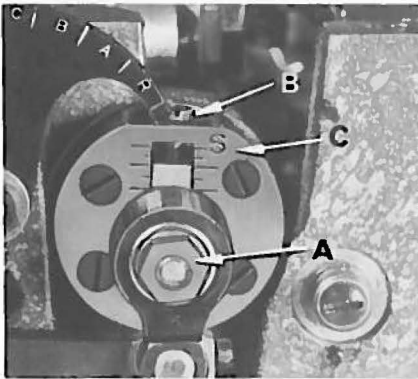

Fig. 11
Set the stitch to the required length. This is accomplished by loosening locknut (A, Fig. 11) (it has a left hand thread) and turning the stitch adjusting screw (B).